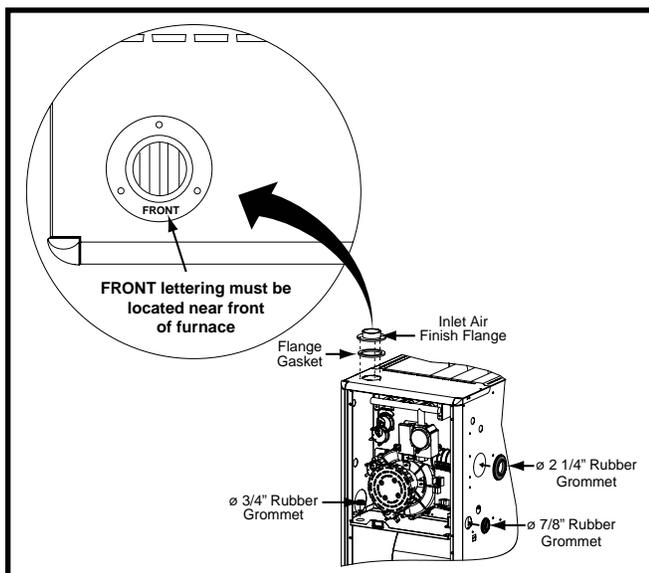
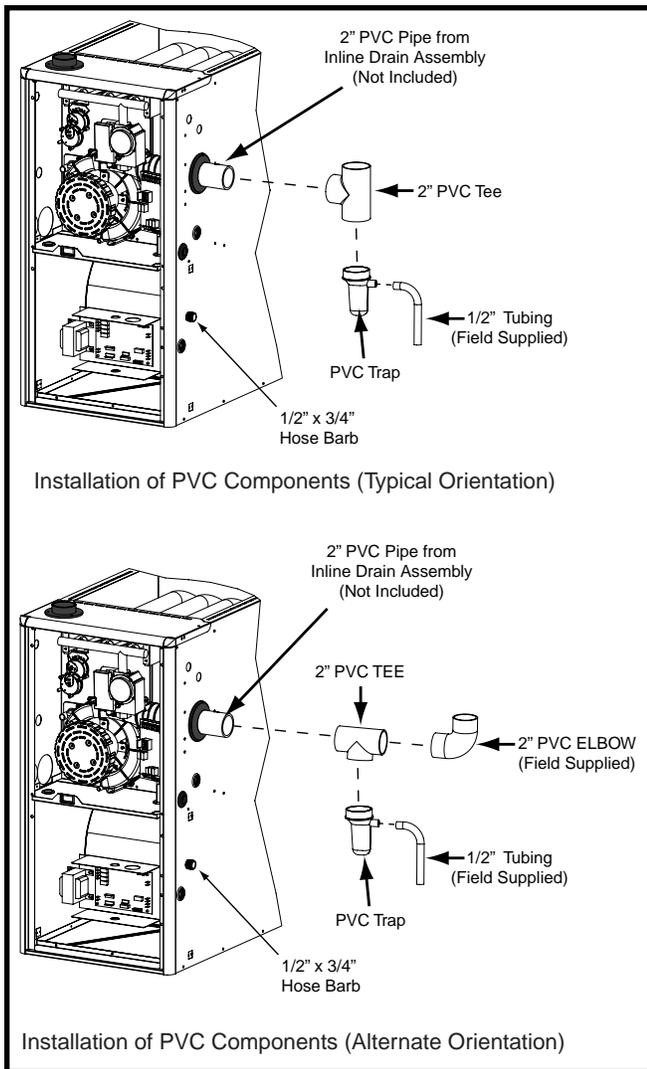

Figure 15. Rubber Grommets
Figure 16. PVC Components
The components in Figure 15 & Figure 16, (page 19) are included in the extra parts bag that is supplied with the purchase of MQ furnaces. Depending on your particular installation, some of these components are optional and may not be used. Please refer to the descriptions and accompanying figures when installing these items.
The Finish Flange must be installed to vent the combustion air pipe through the top of the furnace. **NOTE:** For proper installation, it is important that the pipe and screw holes in the finish flange, gasket, and cabinet are aligned. See Figure 15.
The 2 1/4" rubber grommet is used to seal the opening between the furnace cabinet and the 2" PVC vent pipe. The rubber grommet should be installed in the 3" hole prior to running the vent pipe out of cabinet. No sealants are required. See Figure 15.
The 2" PVC Tee and Trap shown in Figure 16, (page 19) are used when the inducer is rotated to vent out thru the left or right side of the furnace cabinet.
1. Install the PVC Tee vertically on the 2" vent pipe that is extending out the side of the cabinet. Permanently bond them together using appropriate primer and cement. Refer to the typical orientation shown in Figure 16.
1. Install the 2" PVC Tee horizontally on the 2" vent pipe that is extending out the side of the cabinet. Permanently bond them together using appropriate primer and cement. Refer to the alternate orientation shown in Figure 16.